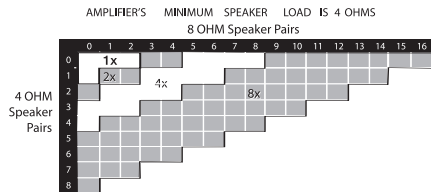
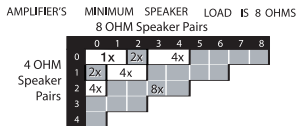

Figure 2
Figure 3
3. Read the correct DIP switch position from the charts on this page. **See Figure 2** if your amplifier can drive a 4 ohm load. **See Figure 3** if your amplifier must have an 8 ohm speaker load.